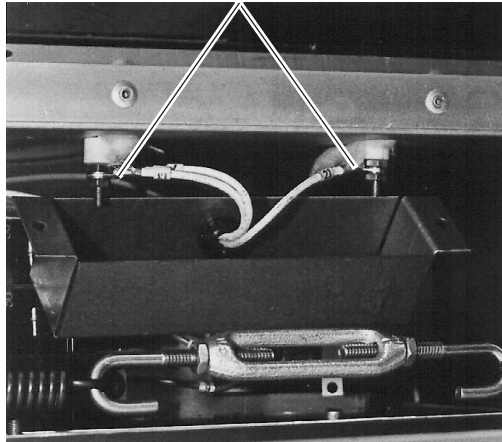

Fig. 39
5. Note and disengage element terminal wiring. (Fig. 39)